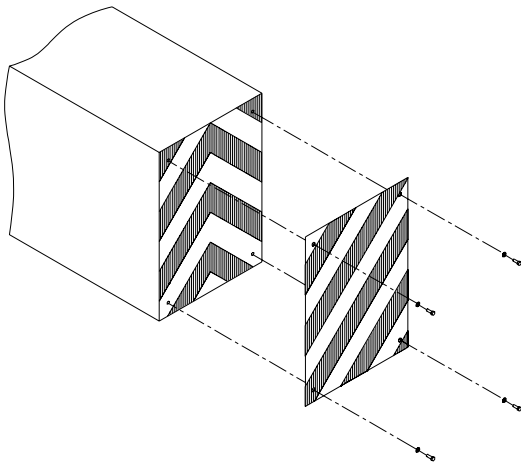

Figure 21
Step 10: Chevron Selection (See Figure 21)